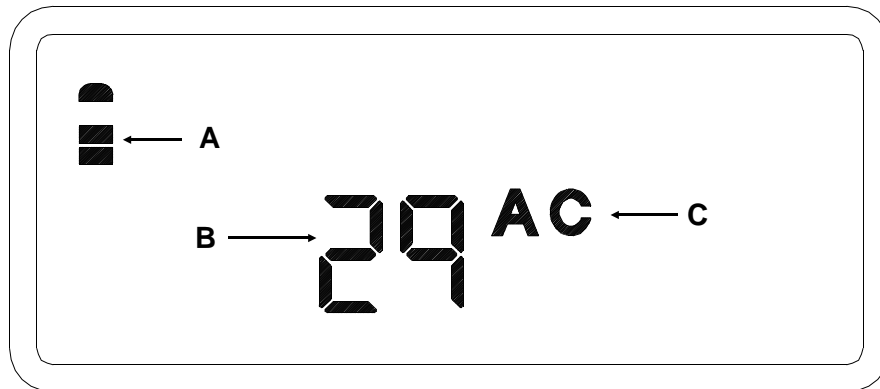

Figure 10
- B. The refrigerator control displays AC current measured by the control. Figure 10 indicates 2.9 amps.